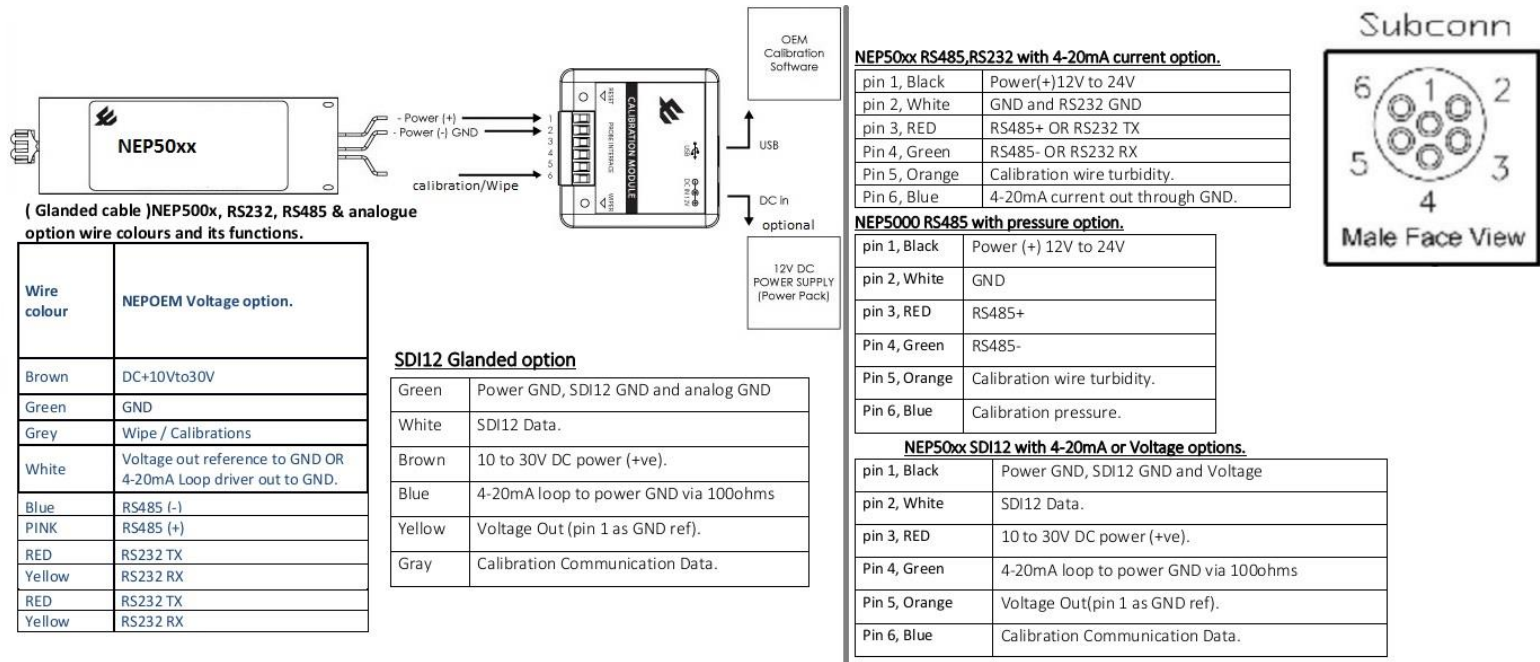

Figure 6: Probe wiring setup with the calibration module.
- 1) Connect the wiring setup as shown in Figure 6 to 8.